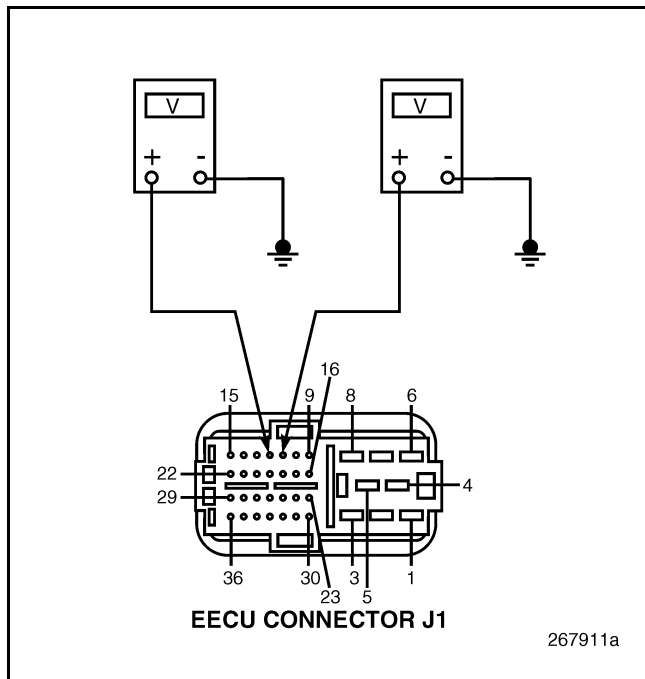

Figure 111
4. Measure the voltage between EECU connector J1 pin 12 and a good ground (see Figure 111).
5. Measure the voltage between EECU connector J1 pin 11 and a good ground (see Figure 111).